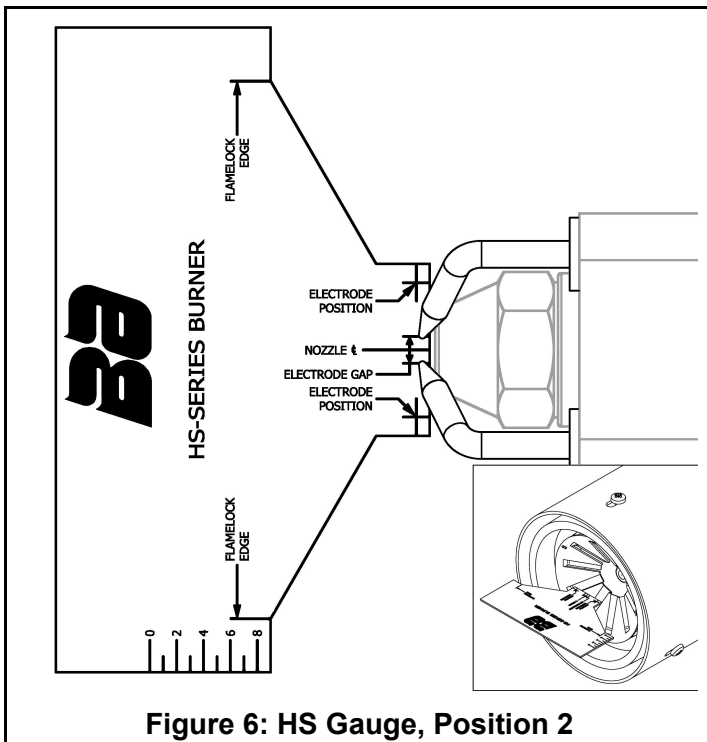

Figure 6: HS Gauge, Position 2
2. To check the spacing between the electrode tips, rotate the gauge 90° and place the gauge against the burner nozzle as shown in Figure 6.